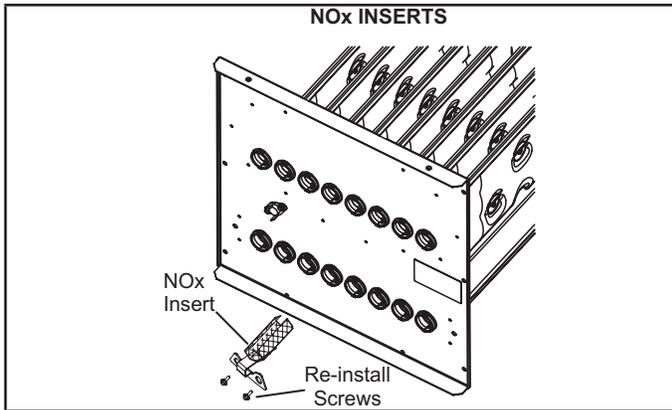

FIGURE 1
- 7 - **EL280(X) and SL280(X) NOX units being converted from natural to LP /Propane.**
- b - Remove the screw which secures each of the NOx inserts to the clamshell. Remove the NOx inserts and reinstall the screw. See FIGURE 1.